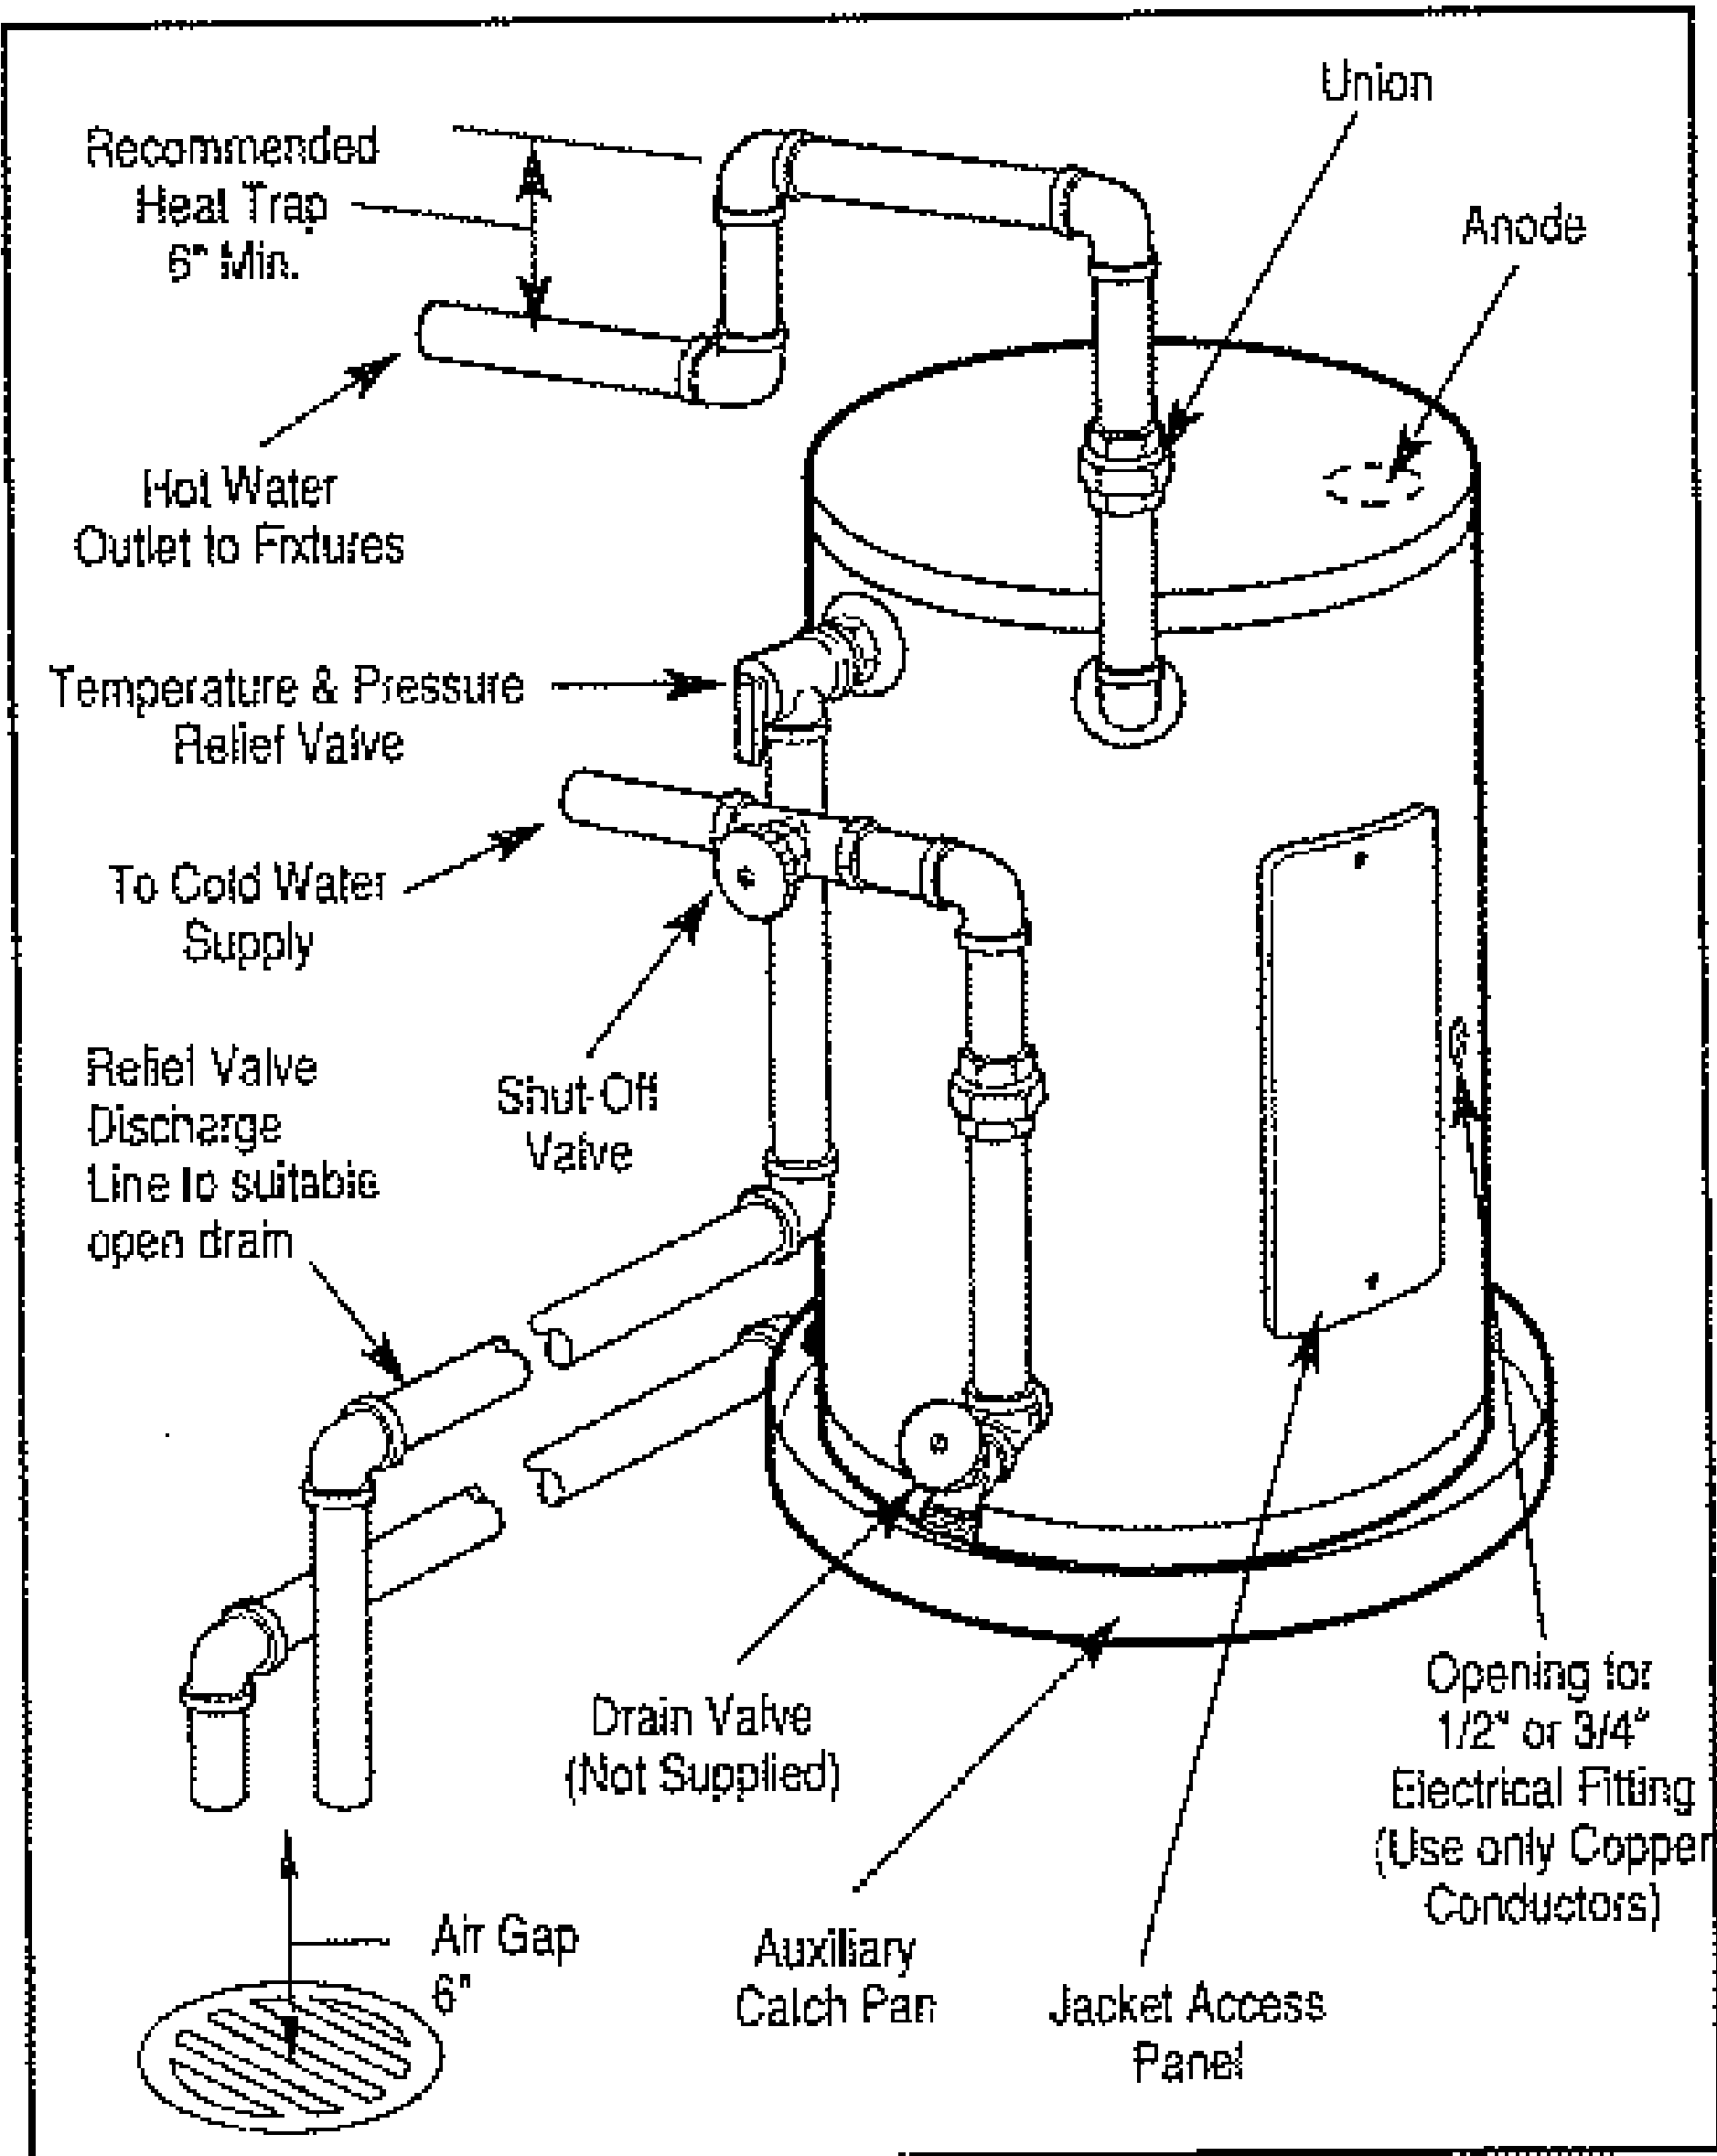
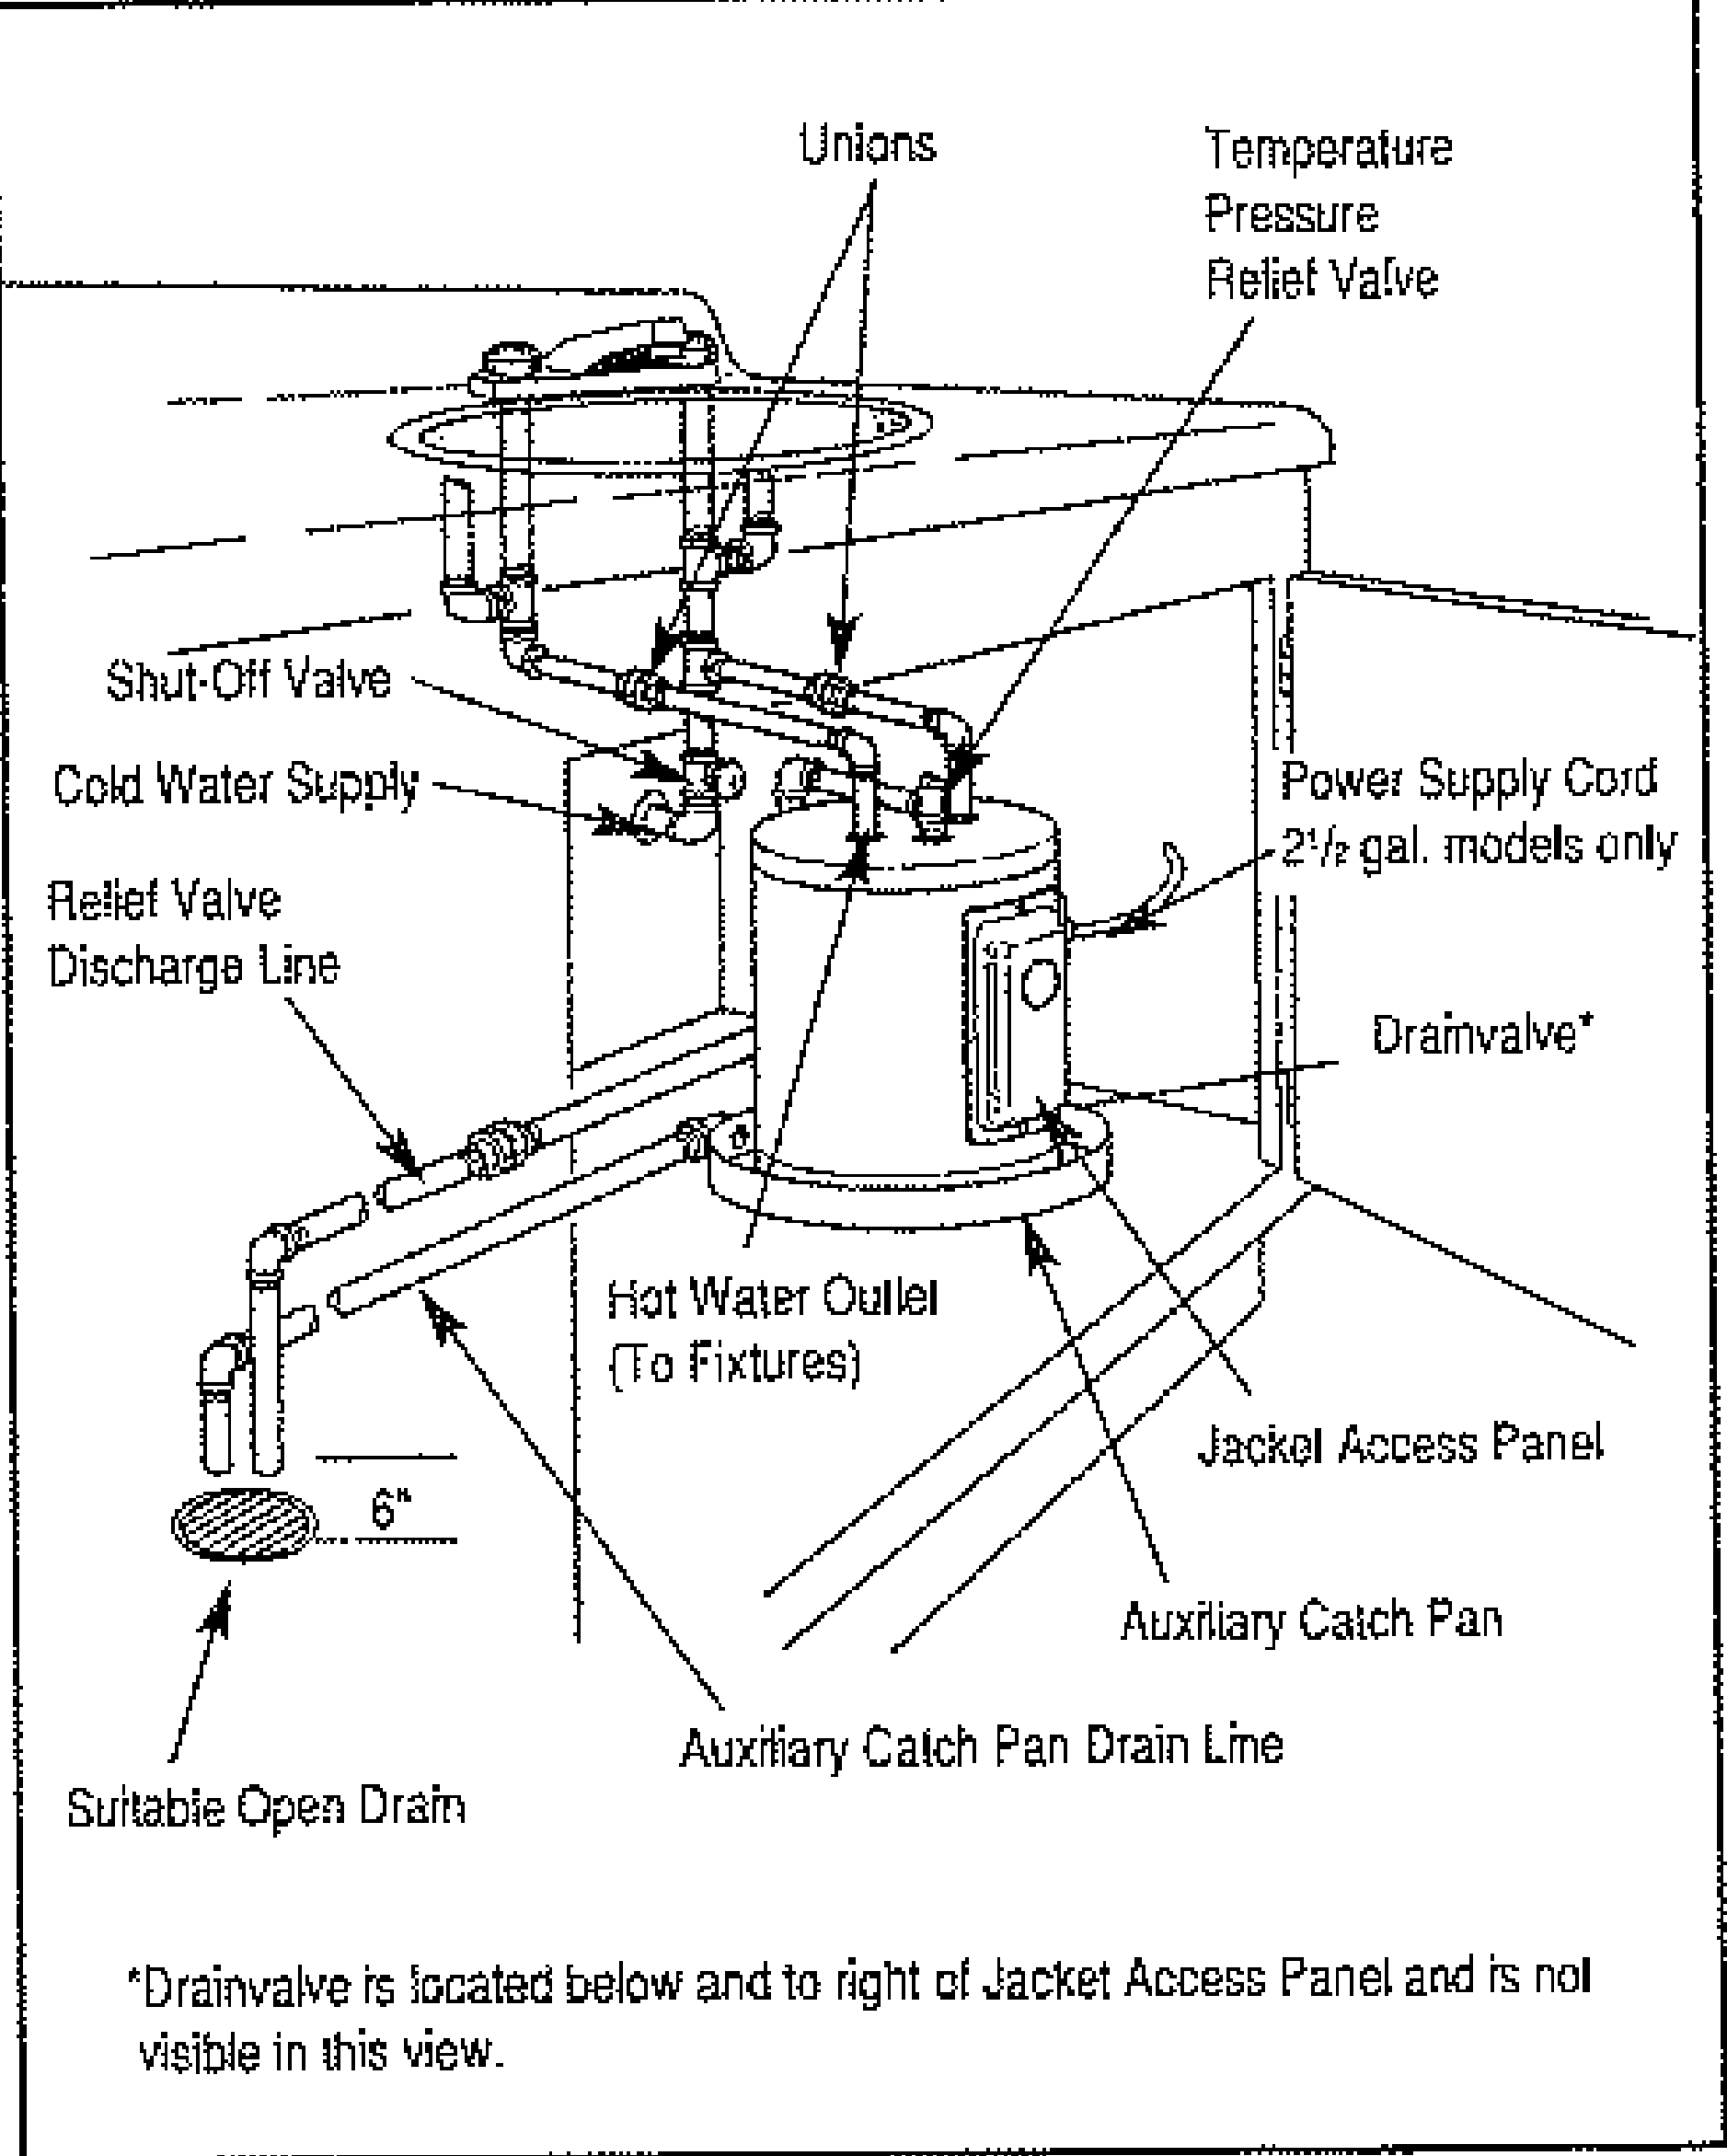

Figure 2. — Typical Side Connect Installation
Figure 3. — Typical Under Counter Top Connect installation
- 2. WATER SUPPLY CONNECTIONS** — Refer to Fig. 2 or 3 for suggested typical installation. The installation of unions or flexible copper connectors on the water connections is recommended so that the water heater may be easily disconnected for servicing if necessary. Connect cold water supply line to 3/4" pipe connection near the bottom of water heater. (Refer to Figure 2.) Install a shut-off valve and a drain valve (not supplied) in the cold water line near the water heater (Refer to Fig. 2.). Connect hot water line to 3/4" pipe connection marked HOT on the side near the top of the water heater. On the some models, the hot and cold water connections are 1/2" pipe connections and are located on top of the heater. (Refer to Figure 3.) A drain valve is supplied on these models. Local codes may require an Anti-Syphon device on the water inlet of a side connect water heater.
3. **RELIEF VALVE** — A new combination pressure and temperature relief valve, complying with the Standard for Relief Valves and Automatic Gas Shutoff Devices for Hot Water Supply Systems, ANSI Z21.22, must be installed in the opening provided and marked for the purpose on the water heater. (Refer to Fig. 2 or 3.) No valve of any type should be installed between the relief valve and the tank. Local codes shall govern the installation of relief valves.